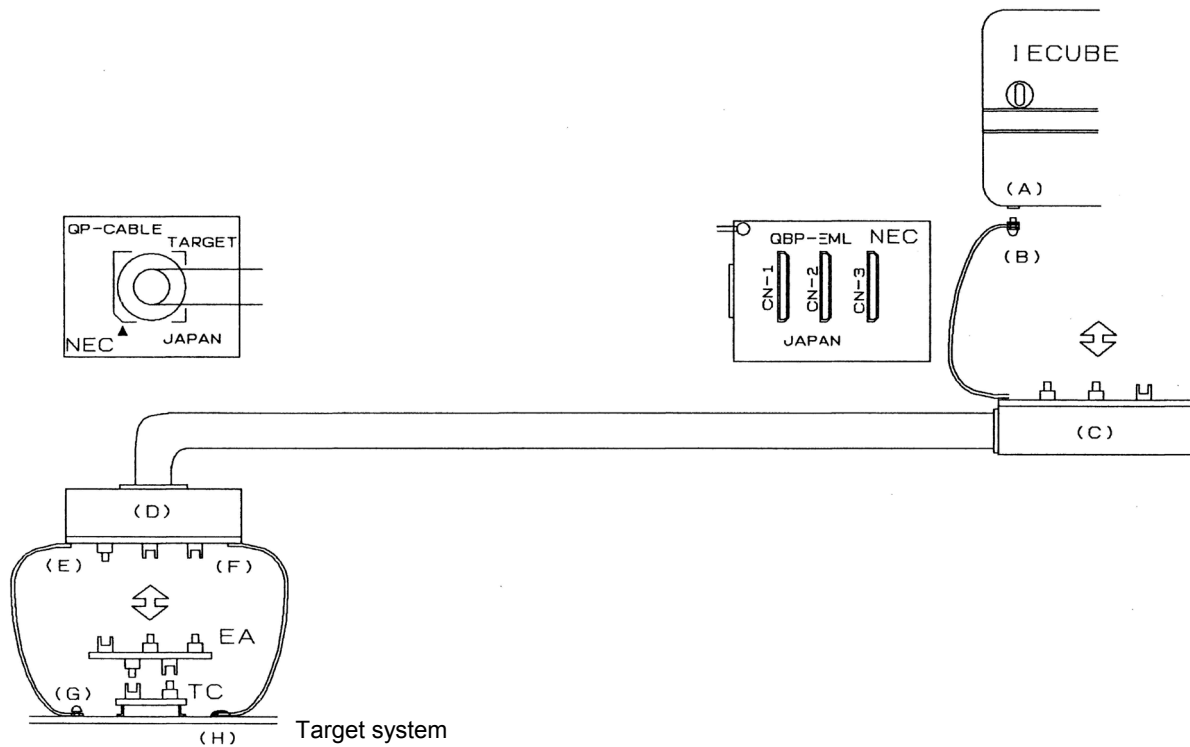

Figure 2-7-3. Connection of GND Lines
<1> Fix a GND line of the extension probe to the nut on the bottom surface of IECUBE using a #0 or #1 precision cross-headed screwdriver. (Connection of **A** and **B** in Figure 2-7-3)
<2> Insert the connector on the top surface of the extension probe in the connector at the bottom opening of IECUBE from the lower side. Take care with the direction. (Connection of **C** and IECUBE in Figure 2-7-3)
- <4> Connect two GND lines of the extension probe on the target system side to the GND block of the target system. If the pin or screw is fixed on the GND block of the target system, remove the transparent pin cover at the top of the GND line and fix the Y-branch pin of the GND line to the target system (**G** in Figure 2-7-3). In the same manner, if the GND pad on the target system is exposed, fix the Y-branch pin to the pad on the target system by soldering (**H** in Figure 2-7-3). (Recommended iron temperature: 300°C)